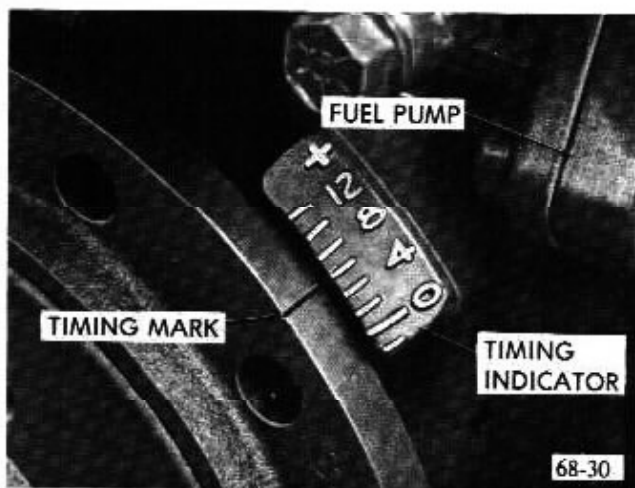

Figure 68-30 - Ignition Timing Mark and Indicator - V-8 Engines
The timing mark is a groove filled with yellow paint, which is in the edge of the harmonic balancer. The timing indicator, a part of the timing chain cover, has ridges outlined with yellow paint. See Figure 68-30.
2. Install distributor in engine with rotor in position to fire No. 1 cylinder and with vacuum control in position to connect vacuum hose. See Figure 68-30. Install distributor clamp and bolt with lock washer, leaving bolt just loose enough to allow movement of distributor with hand pressure.